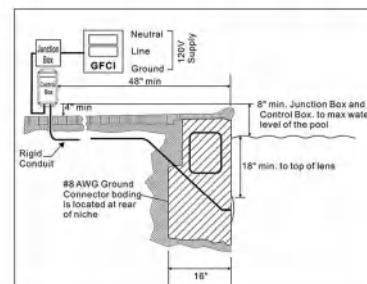

Figure 2
2. Drill 1 hole on the flat place you intend to mount the pool light, use 1 expansion screw to fix the light, treat the light with silicon around the light.(you may need to cut off the bolt that is for wet niche install.)See Figure 2